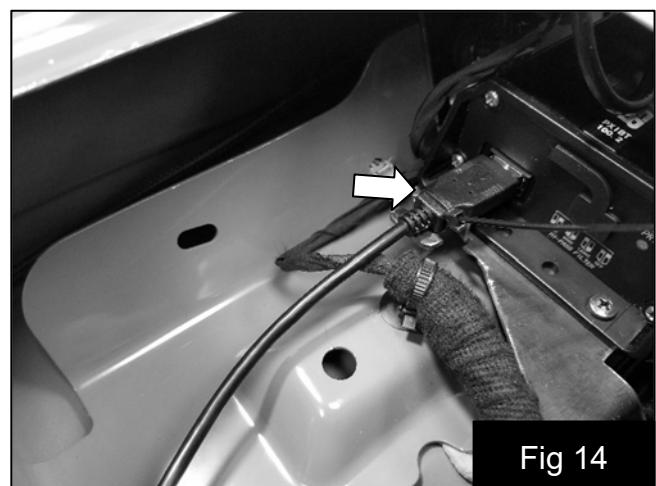

Fig 14
25. Connect the USB cable to the amplifier and secure to the metal tab with supplied wire tie. Fig 14